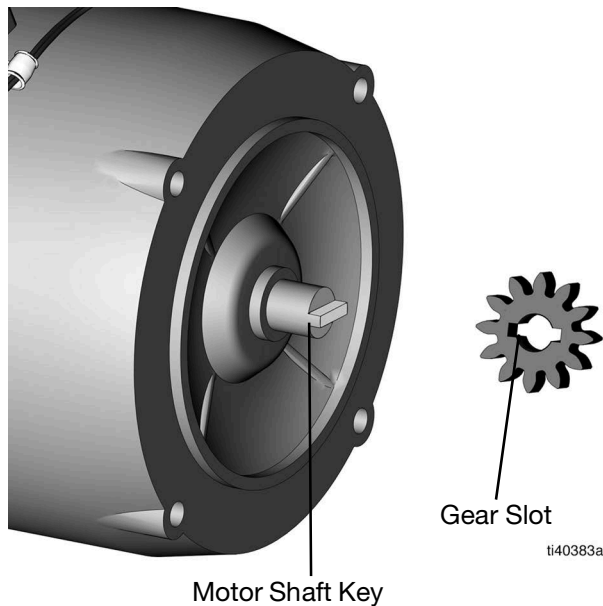
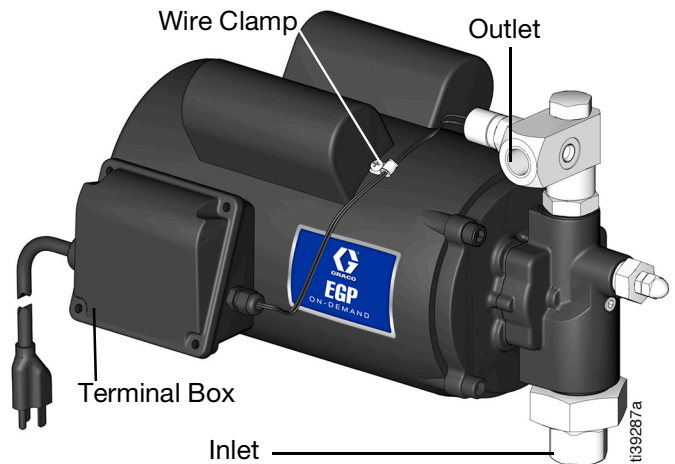

FIG. 19
FIG. 21
1. Put the pump housing assembly onto the motor. The motor shaft key should match the slot on the gear on the inside cover. The pump outlet should face up and the terminal box should be centered between the pump outlet and the pump inlet (FIG. 19 and FIG. 21).
3. Push the pressure switch wire into the wire clamp and through terminal box through the strain relief (FIG. 21).